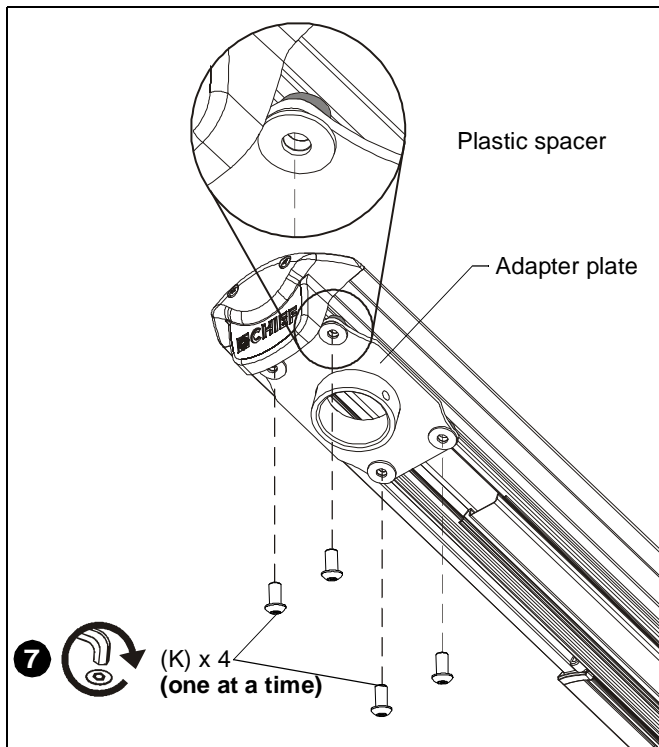

Figure 26
7. Install one 1/4-20 x 3/4" button head security screw (K) into hole vacated by removing bolt in Step 6 and into plastic spacer. (See Figure 26)